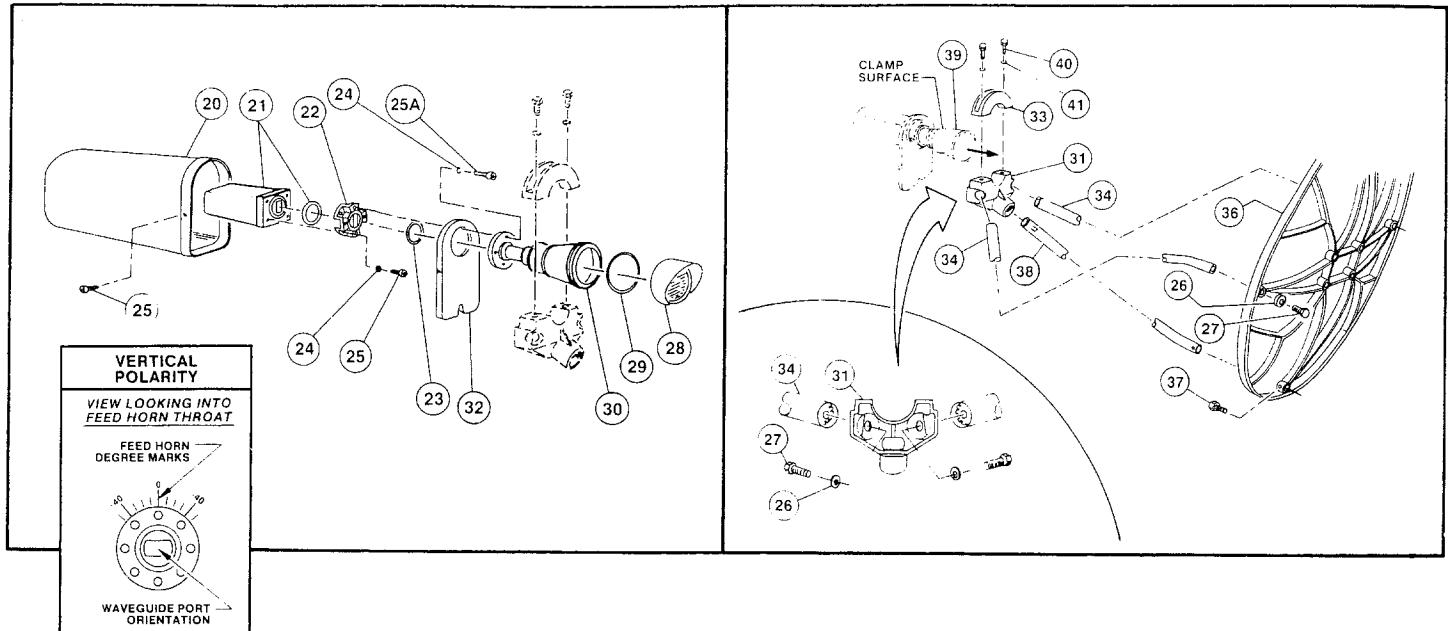

FIG. 1.6 - INSTALLATION OF FEED AND FEED SUPPORT LEGS TO ANTENNA
Assemble feed assembly and feed legs to antenna as shown in Fig. 1.6 (Page 8).
Assemble horn, junction block (31) and clamp using two M6 x 20mm bolts and M6 flat washers (10 & 41) as illustrated in Fig. 1.6 & 2.0 (Pages 8 & 9).
Feed models with LNB's are factory assembled as shown in Figure 1.6. For models not supplied with LNB's refer to instructions packed with feed.